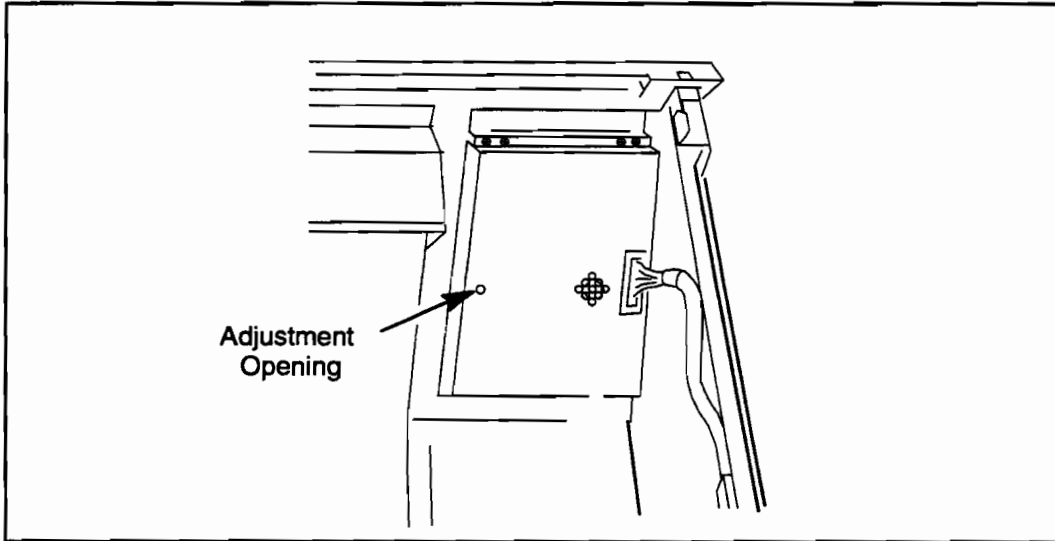

Figure 7-19. LCD Contrast Adjustment
2. Locate the adjustment opening in the front panel assembly cover. See Figure 7-19.
3. Insert a plastic adjustment tool or a small insulated screw driver through the opening into the control (VR1). VR1 is illustrated in Figure 7-19.